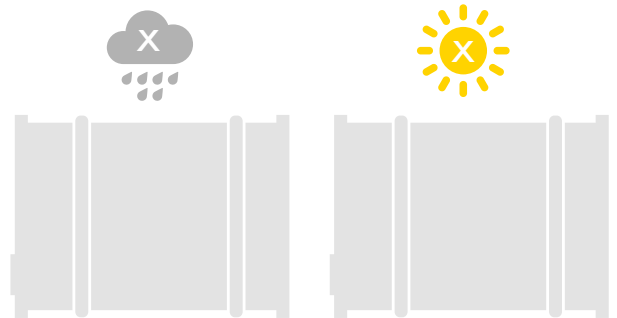

FIGURE 3: Storage position: unexposed to weather, drums on side and raised off the ground
- storing the drums on their sides or, if this is not possible, upside down so that the bungs are at the bottom (Figure 3)